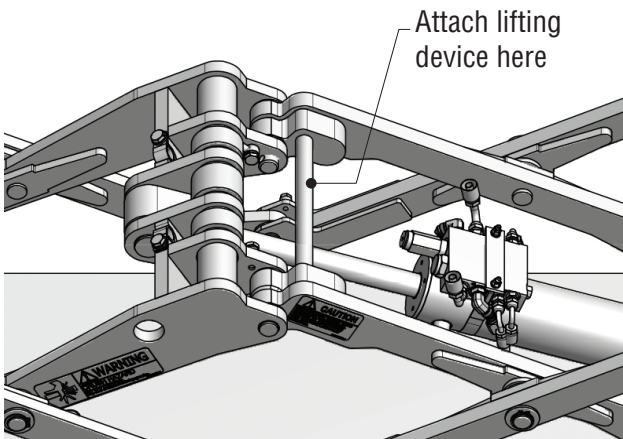

Figure 6-15, Lifting Point
- d Support the mechanism through the uppermost bar on the inner secondary arm as shown (Figure 6-15), with an appropriate lifting device. A standard mechanism assembly weighs approximately 275 lbs (125 kg).
- b. Support the mechanism before removing the cylinder. Use the same lifting point used to remove the mechanism from the rear frame. (Figure 6-15)